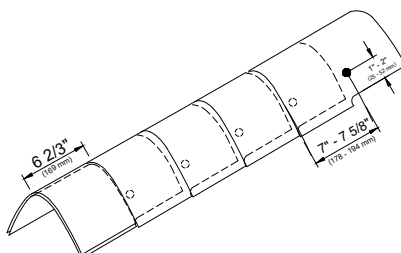

Figure 3
- For Seal-A-Ridge® Ridge Cap Shingles 7" – 7 5/8" (178 - 194 mm) back from the exposed end and 1"-2" (25 - 51 mm) up from the edge (see Figure 3).